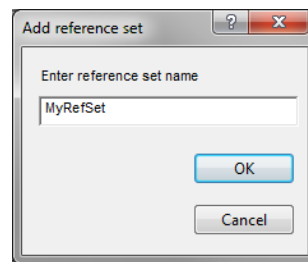

Figure 3.30: The *Add reference set* dialog box.
15.2 Press <**Add**> to call the *Add reference set* dialog box (see Figure 3.30).